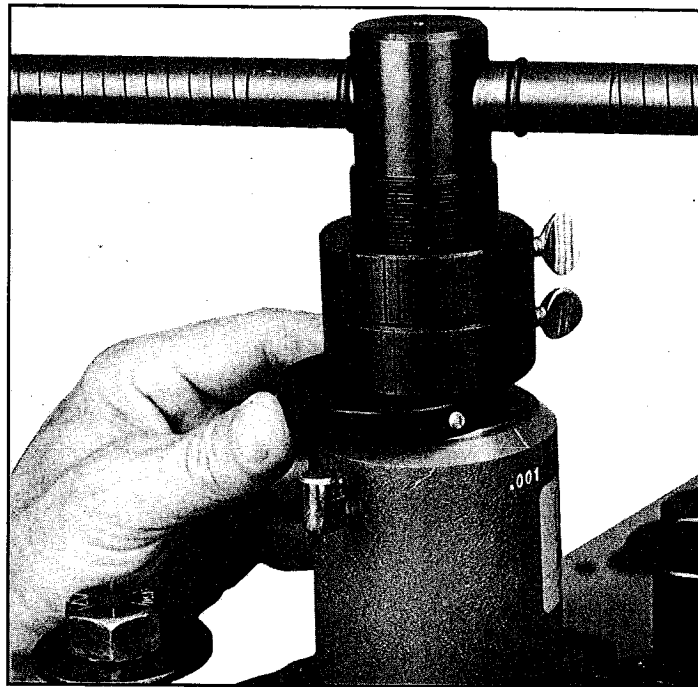

Fig. 6B
2. After adjusting the cutter to counterbore diameter, back off both lock collars and lower the cutter plate into the bore until the cutter bit contacts ledge. Continue to back off collars until PT 2200-83 Spacer Block can be installed between main housing and lower lock collar. See Fig. 6B.